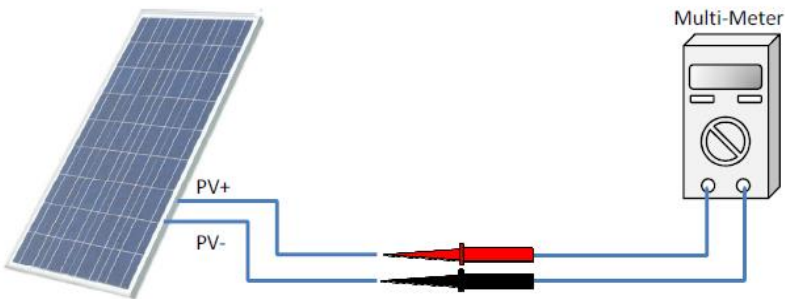

Figure 3-24 Polarity Check
3. Ensure correct polarity of the PV Strings before terminating the DC source circuits within the wirebox. Referring to Figure 3-24, the wiring from the PV string pairs must be checked according to the following steps: